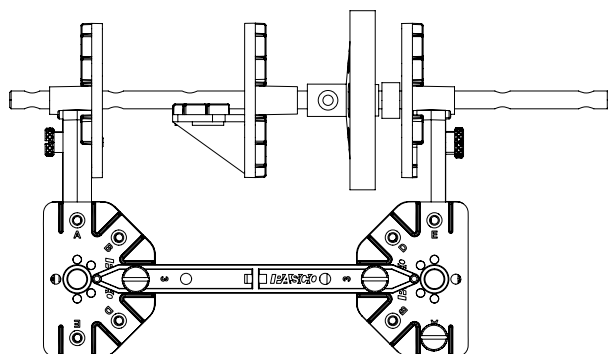

Figure 9: Axle (with spacer, tire, wheel, and full round connector) attached to fifth floor.
- Second, place the tire onto the wheel and slide the wheel onto the axle with the "hub" facing away from the spacer, as shown in Figure 9.
- Finally, put the full round connector onto the axle, with the "right angle" part oriented to face downward toward the hole in the floor and away from the wheel, as shown in Figure 9.
6. Slide the other end of the axle through the hole in the center of the other flat round connector. Figure 9 shows a side view of the axle attached to the flat round connectors on top of the fifth floor.